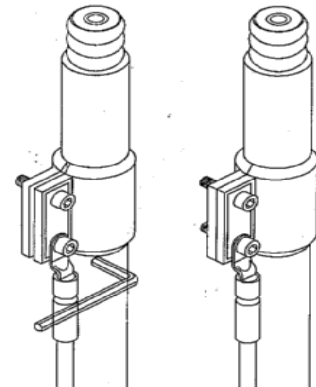

Figure 19
d) Tighten the screws of the grounding kit, as show in Figure 19.